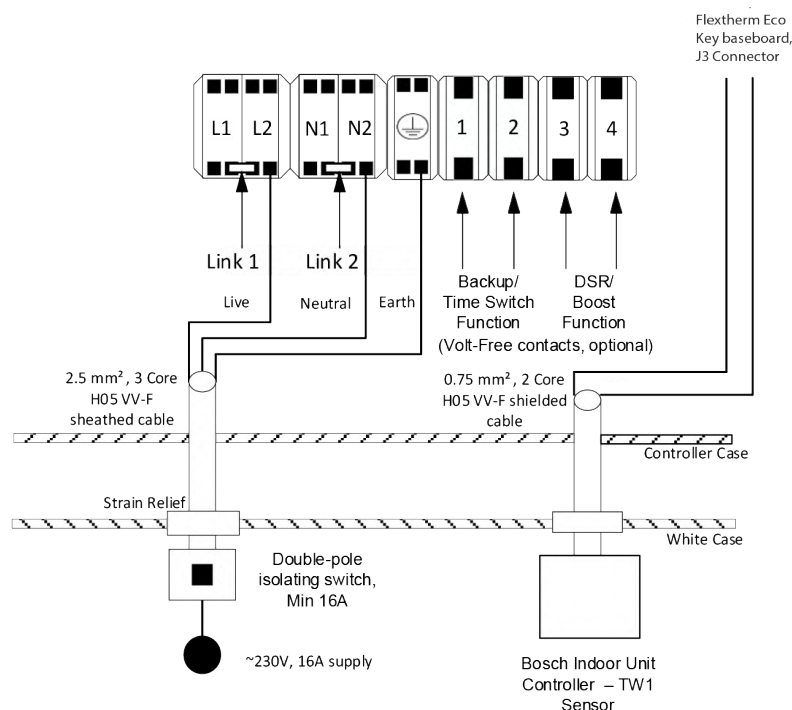

Figure 2: Flextherm Eco G2 D with Bosch HP-Key
- Flextherm Eco G2 D with the «Bosch HP-key» & «Bosch HP+PV-key» (Flextherm Eco G2 D manual - Section 6.4.2 for wiring instructions & Figures 2 & 3 below)
Using a 2-core shielded cable 0.75mm², the cable will act as a hot water heating tank sensor from the Flextherm Eco Board - terminal J3 into the Heat Pump Indoor Unit controller PCB Terminal - (TW1 - DHW Storage Temperature) (please refer to HP installation manual). Please run the wire into the heat battery appliance via the appliance case cabling grommets and then into the control box housing through the hole available. Secure the cables in terminal J3 on the Flextherm Eco Board; please see Figures 2 & 3 below for reference.